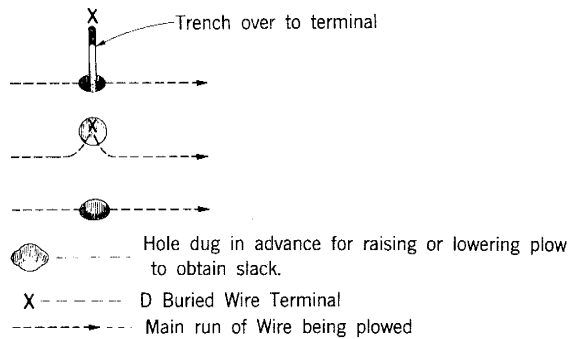

Fig. 6 — Measure Amount of Slack at Terminal
- (b) Where possible, place the terminals in advance of the wire plowing operation. This provides the workman with an exact reference point for measuring the proper amount of slack to be left at each location. Fig. 6 indicates some methods for accomplishing this.